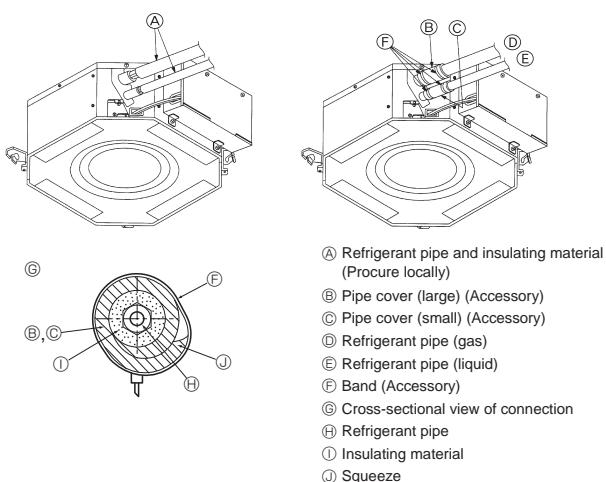

Fig. 5-4
- ⑪ Apply refrigerating machine oil over the entire flare seat surface.
5.3. Indoor unit (Fig. 5-4)